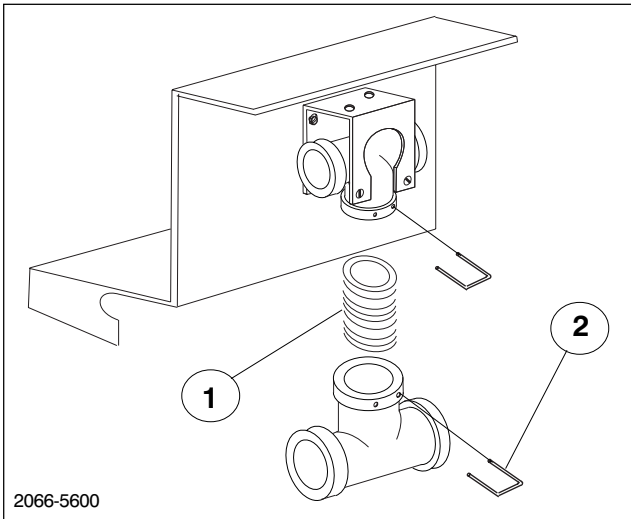

FIG. 5
5. Assemble loose Tee to Tee connected to Pump and Tank using one (1) Connector and two (2) Forks. (See FIG. 5)